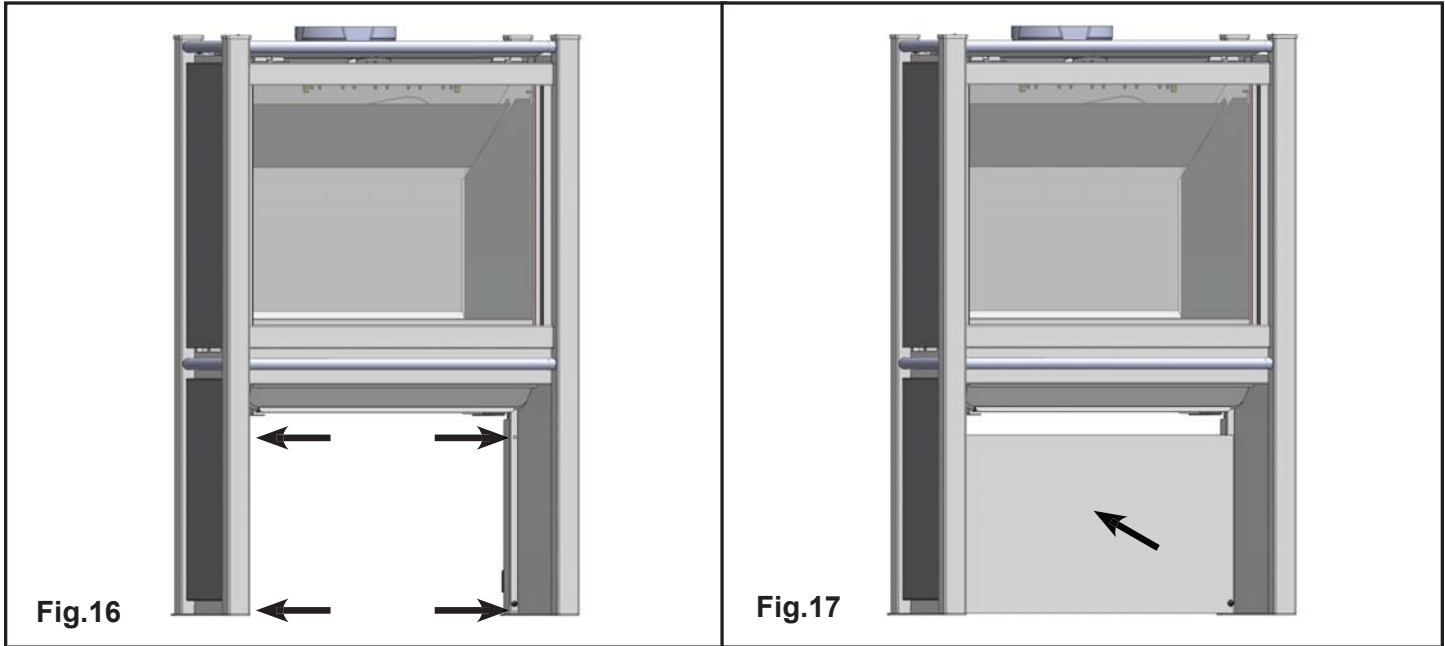

Fig.15
11. If installing the optional log set (Fig.15) refer to installation instructions on Page 39, if not continue below.